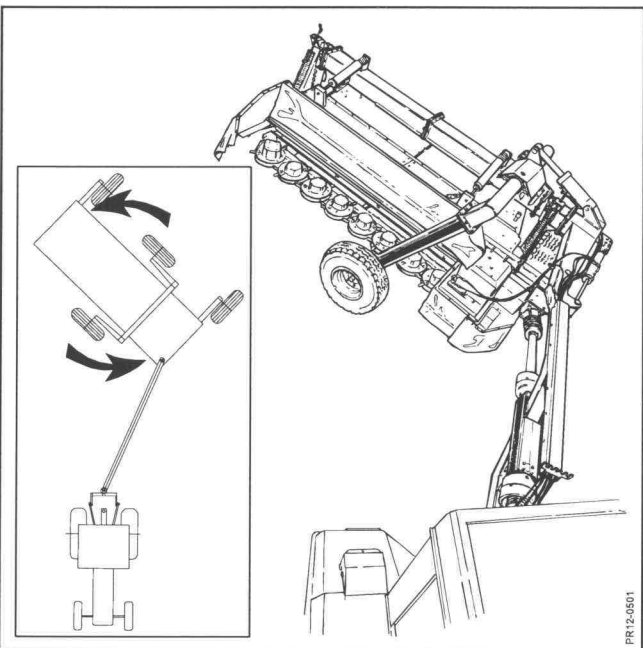

Fig. 3-5
- Fig. 3-5** 3) **THE MACHINE IS SWUNG INTO WORKING POSITION WITH THE SHIFT CYLINDER.**